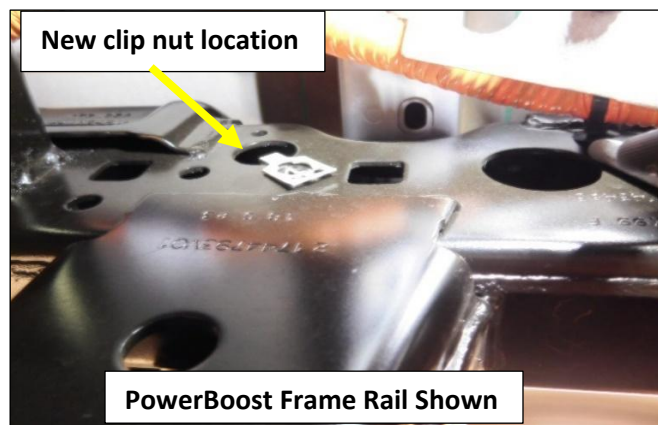
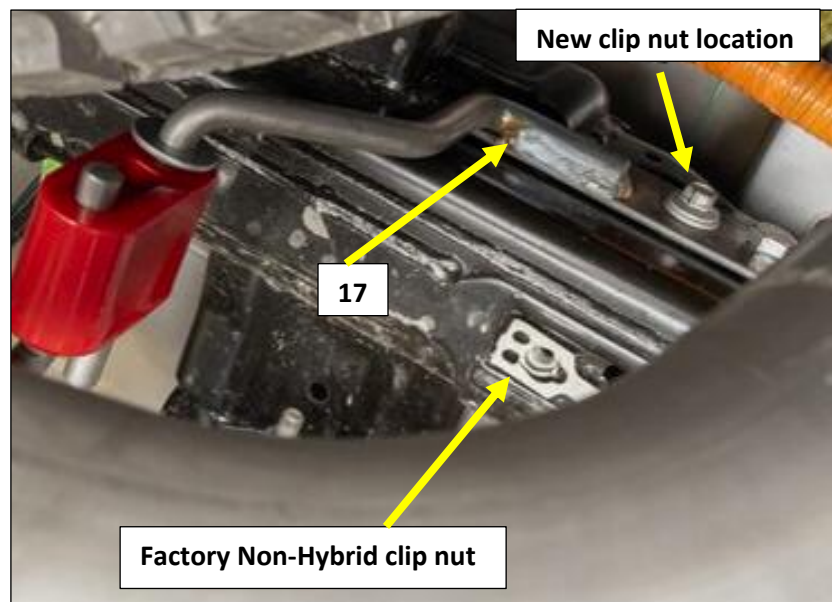

Figure 11
Figure 12
The FACTORY left side tailpipe frame hanger assembly will not be used for Standard or PowerBoost models. The Flowmaster frame hanger 535HA (17) will be installed in its place. It will be necessary to relocate the factory clip nut to a different location in the frame rail, if it is not already there. Standard F150 frame hanger assemblies use the correct location. PowerBoost vehicles will need the clip nut relocated as shown in Figures 11 & 12.
2. Remove one of the existing frame hanger clip nuts and re-install it into the frame rail at the location in **Fig. 11**. **NOTE:** Standard F150 models may already be in the correct location, PowerBoost clip nuts will move from the bottom of the frame rail to directly above and to the inside of the frame rail as shown. See **Fig.12** as reference.
3. Install the 535HA (17) frame hanger on to the inside left frame rail using the OEM Mounting bolt. **Fig. 12**